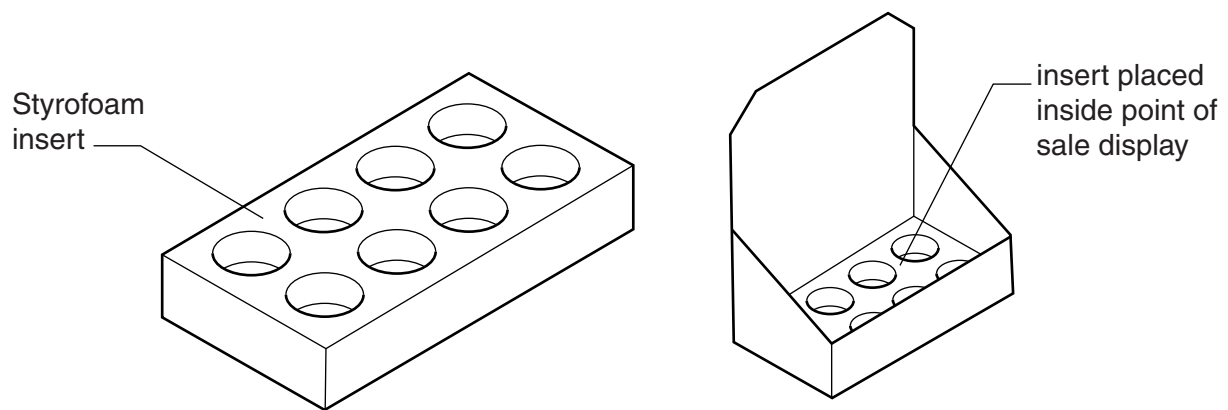

Fig. 2
- (c) Fig. 2 shows a Styrofoam insert. The insert will be placed inside the point of sale display.